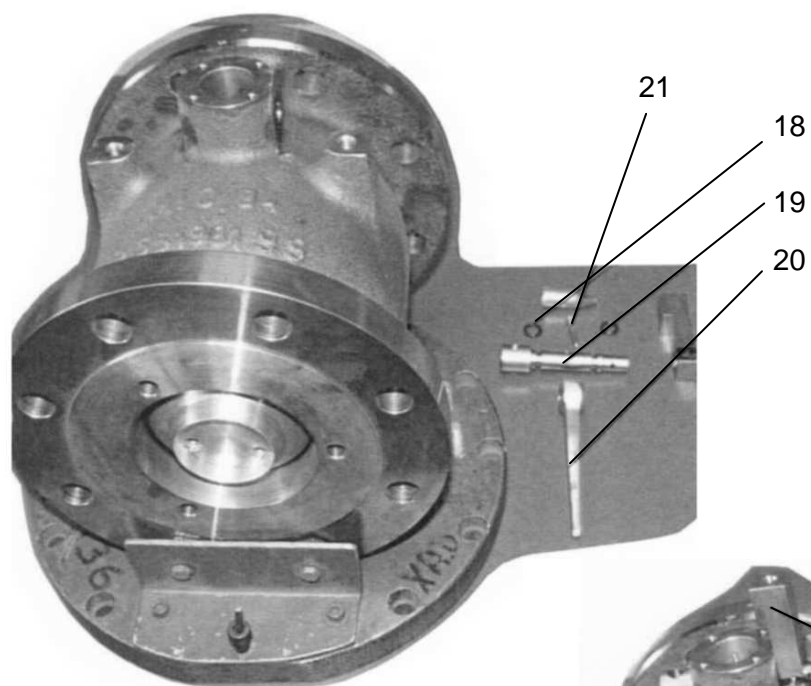

Fig.6
1.7 Assembly the system of order (Fig.6, 7 and 8)
- Assembly 2 o'rings (18) on the axle (19).
- Installation of the lever of order (20).
- Installation of the axle (19).
- Assembly the pin (21).
- Assembly the cover (22) with his gasket (23).
- Assembly the lever (24) and to fix the pin.